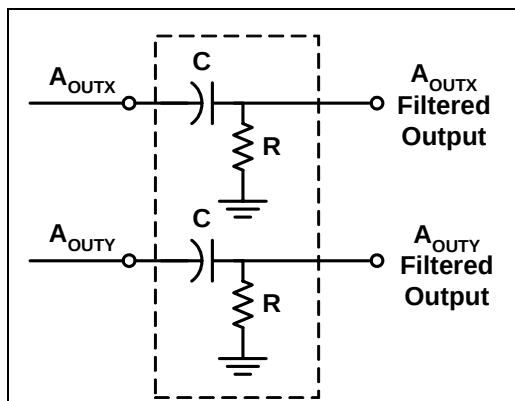

Figure 3: High Pass Filter
**AC Coupling:** For applications where only dynamic accelerations (vibration) are to be measured, it is recommended to ac couple the accelerometer output as shown in Figure 3. The advantage of ac coupling is that variations from part to part of zero  $g$  offset and zero  $g$  offset versus temperature can be eliminated. Figure 3 is a HPF (high pass filter) with a  $-3\text{dB}$  breakpoint given by the equation:  $f = \frac{1}{2\pi RC}$ . In many applications it may be